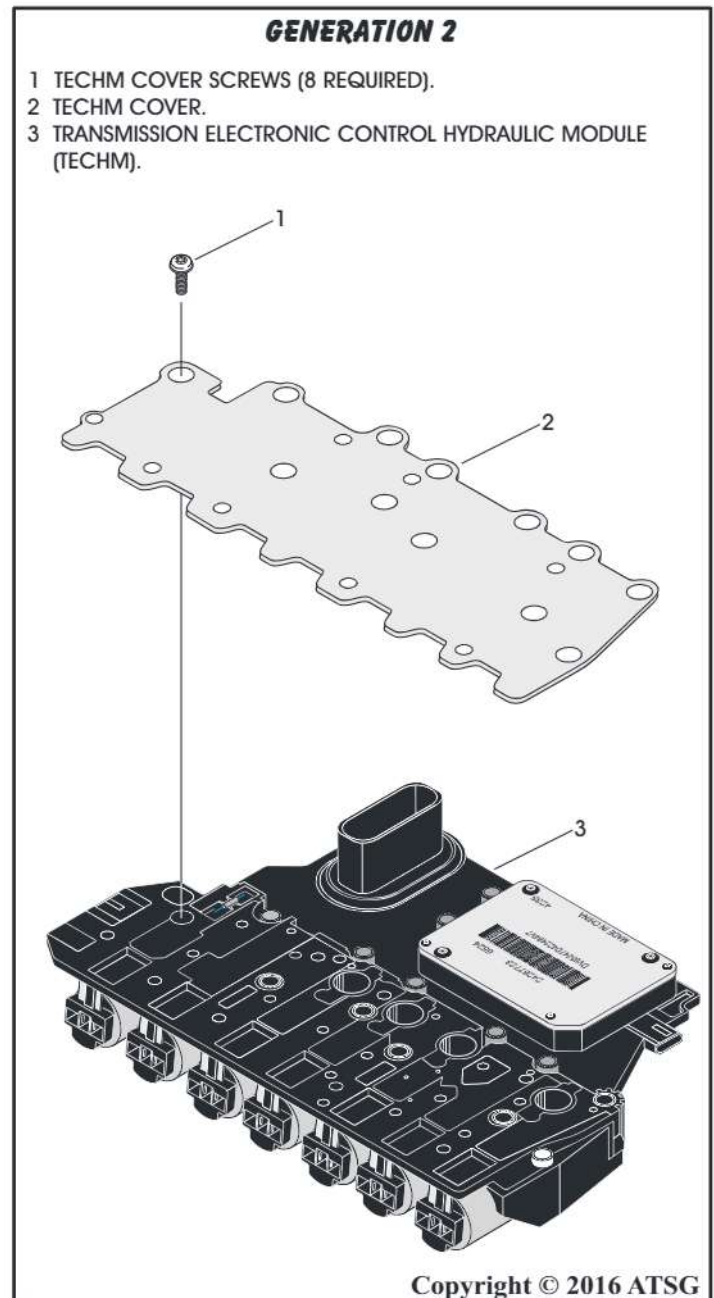

Figure 174
109. Remove the eight (8) Generation 2 Transmission Electronic Control Hydraulic Module (TECHM) cover screws and remove cover as seen in Figure 174.